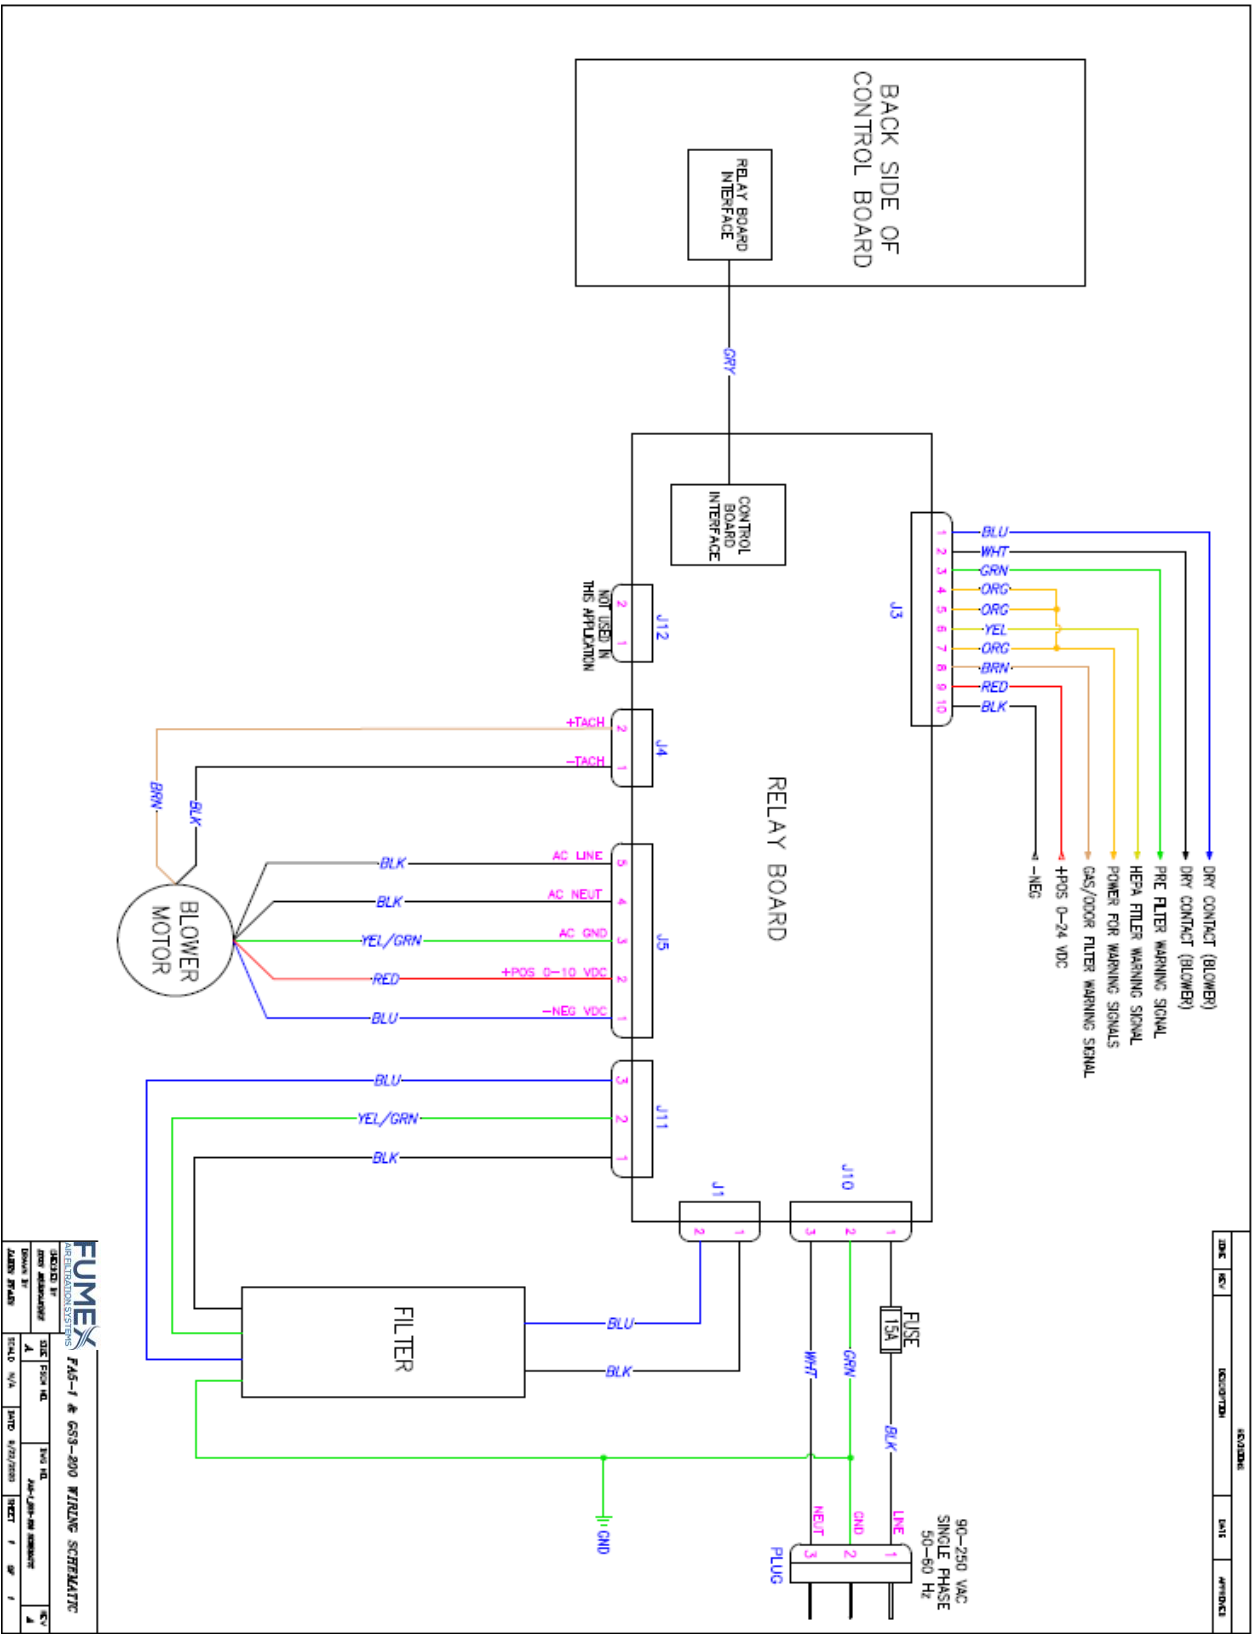

Figure 1
The GS3-200 can be supplied with an optional interface package providing remote start/stop and filter monitoring capabilities (Part # FA227). Please see instructions below for Relay Activation/De-Activation procedures and refer to the drawing in Figure 1 for remote connections.
7. Remove the flash drive and apply 0-24 VDC to the start relay according to the wiring diagram in Figure 1 to start the unit.